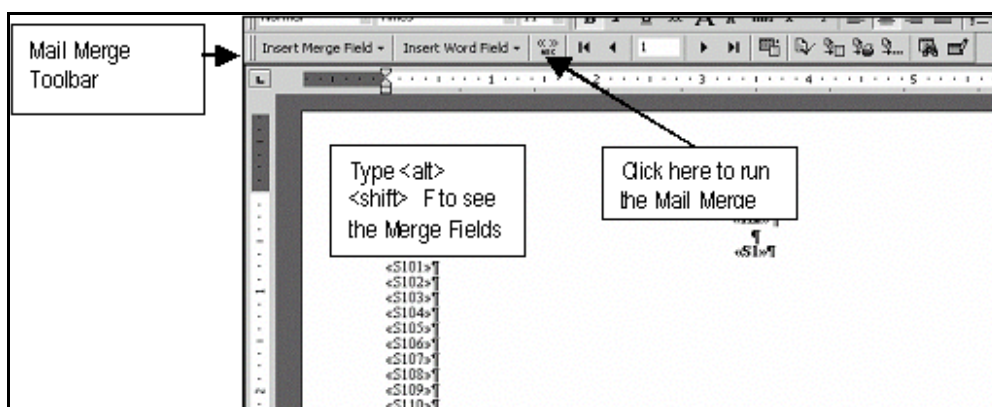

Figure 6-65: Check the Health Summary Template, Step 12
12. Click the mail merge icon from the Mail Merge Toolbar and Word will populate the form. The Mail Merge toolbar should be present and the Insert Merge Field drop down menu should have over a thousand fields in it. Click the mail merge option and Word will populate the form (Figure 6-65).